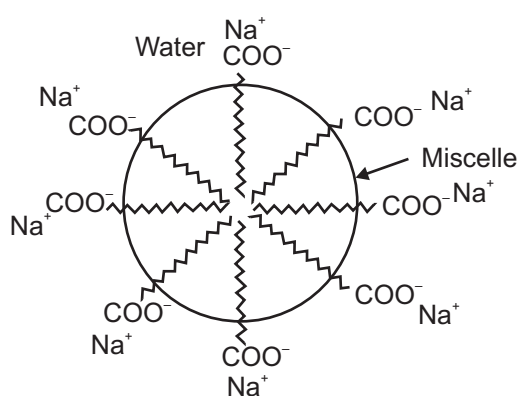

Fig.8.1 : Aggregation of RCOO^- ions to form a micelle.
- (c) Associated colloids – These are substances which behave as normal electrolyte at low concentration but get associated at higher concentration to form miscelle and behave as colloidal solution. Soap is an example. Soap is sodium salt of long chain fatty acid $R\text{COONa}$. When put in water, soap forms RCOO^- and Na^+ . These RCOO^- ions associate themselves around dirt particles as shown below forming a miscelle (Fig. 8.1).